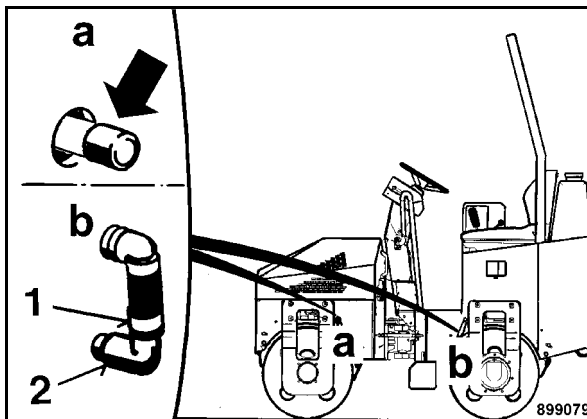

Fig. 86
- Pull the cap a (Fig. 86) off the sprinkler tube.
- Loosen (b) the hose clamp (1) and pull the hose of the sprinkler tube (2).